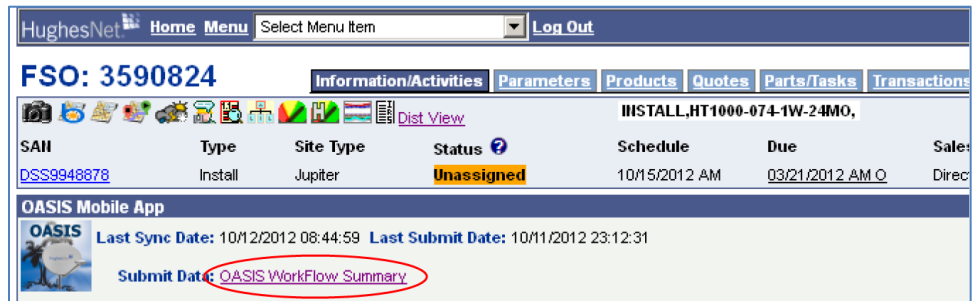

Figure 60: FSO page
- On the page that launches, tap **OASIS Step Summary** (circled in Figure 60).
6. Return to the FSO page (Figure 60 on page 58)